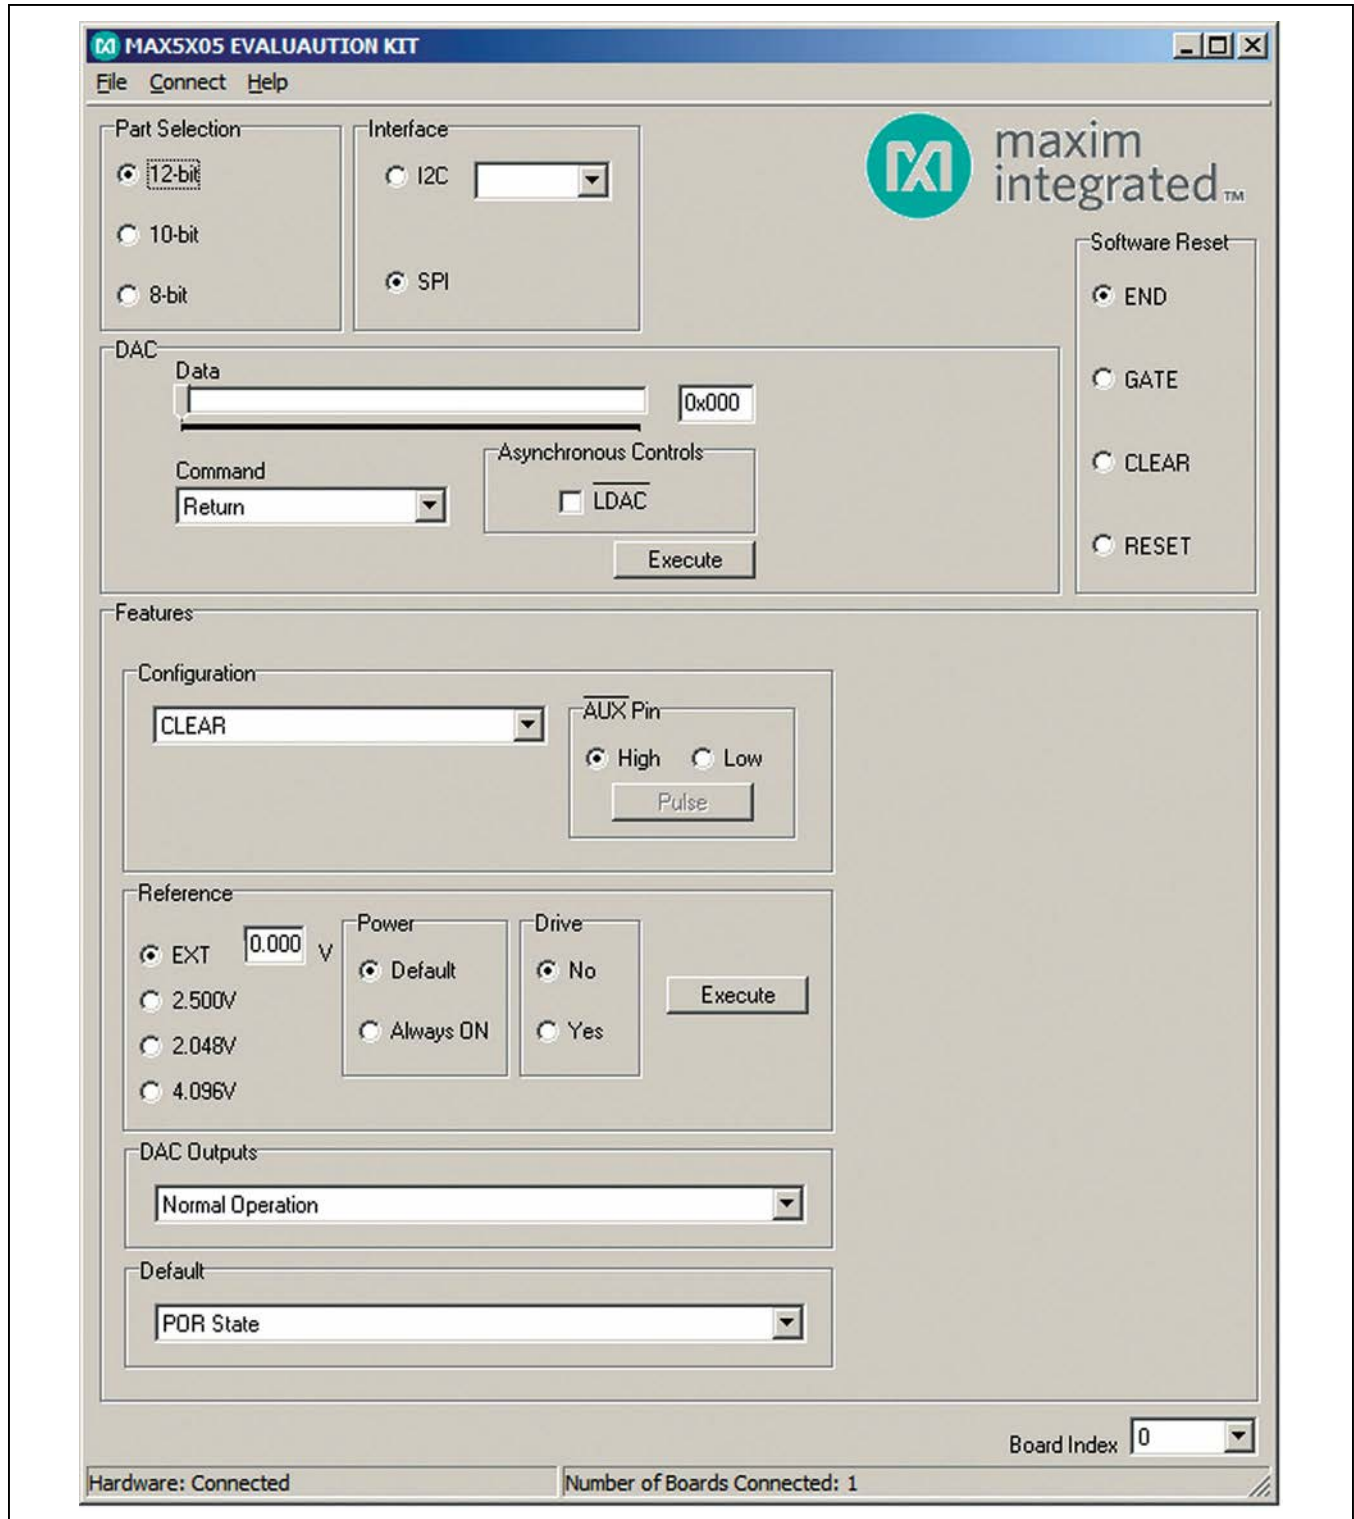

Figure 1. MAX5X05 EV Kit Software Main Window (SPI)
- 7) Start the MAX5X05 EV kit software by opening its icon in the **Start | Programs** menu. The EV kit software main window appears as shown in Figure 1.